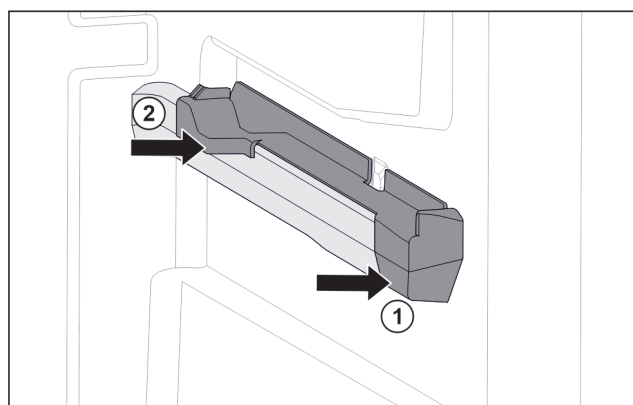

Fig. 94 Attachment on the right moulded rib
- Position attachment on moulded rib at the front. Fig. 94 (1)
- Press on attachment at the back. Fig. 94 (2)